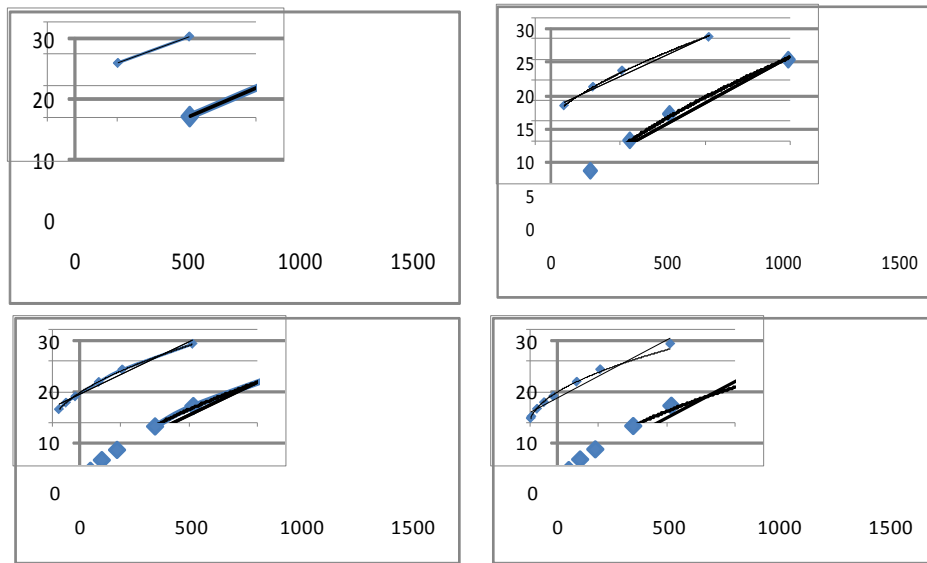

Figure 2-6: Regression result as a function of # of viscometer data points. (2, 4, 6, and 8 data points).
b) Regression results for Bingham and Power law models are presented in Figure 2-6: